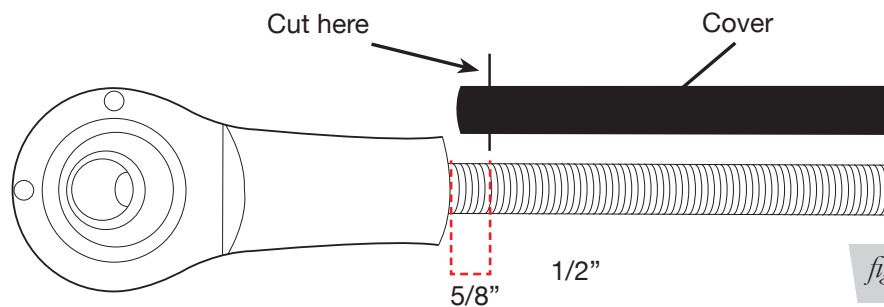

fig. 15
8. Cut the rod cover 5/8" shorter than the rod length with the rod assembled on one end after cutting (fig. 15).